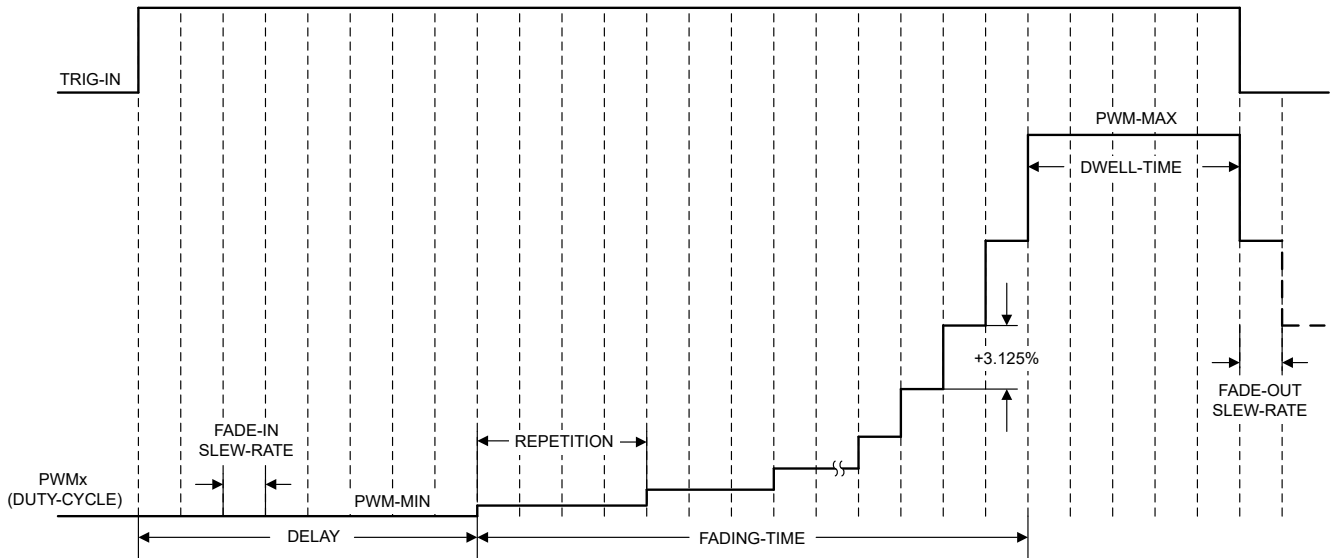

図 7-6. Fade-in Fade-Out Detailed Timing Diagram
By default the DAC43901-Q1 is configured in the PWM fade-in fade-out with the default settings as shown in 表 7-4. To change settings in the SRAM, write the SRAM address to the SRAM-ADDR register followed by a write to the SRAM-DATA register with the data. The register locations can be directly written with a single I2C or SPI sequence. In fade-in fade-out mode or animation mode, the basic setting is the fade-in or fade-out SLEW\_RATE as depicted in 図 7-6. The SLEW\_RATE defines the timing resolution of the application. When the SLEW\_RATE is multiplied with the number of steps in the fading, the fading time is obtained. The SLEW\_RATE can be calculated using 式 4. In logarithmic fading, the number of steps are nonlinear and also depend on the start and end duty-cycle settings. The total fading time is calculated using 式 5 and 表 7-5. The fade-in can be started after a delay, calculated per 式 7. CH0-DELAY defines the fade-in delay for PWM0, and COM-DELAY defines the fade-in delay for PWM1. The delay applies even when the fade-in is disabled by writing 0 for FADE-IN SLEW\_RATE. In this case, a predefined delay setting of 256 is considered. There is no delay for fade-out.
- $t_{\text{FADE}}$  is the total fading (fade-in or fade-out) time as depicted in Figure 7-6.